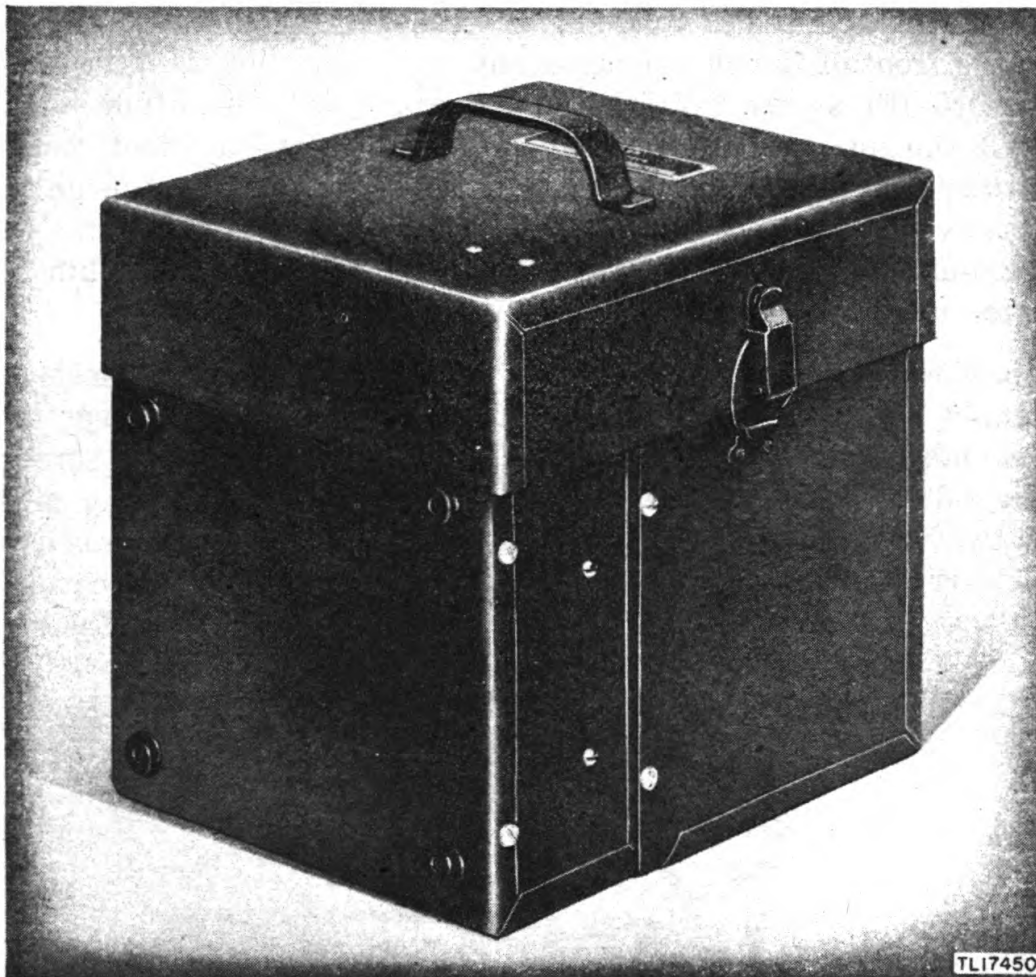

Figure 4. Vibrator Pack PP-68/U, assembled for carrying.
Vibrator Pack PP-68/U is 8- $\frac{3}{4}$ inches high, 8- $\frac{3}{8}$ inches wide, 9- $\frac{3}{8}$ inches deep, and weighs 22 pounds (fig. 4). Major components are:
b. Cover Plates. The cover plate on the bottom of the chassis assembly is held in place by eight 6/32 screws. The top cover is a steel housing and it is fastened to the chassis by four 6/32 screws. The side cover is attached to the chassis assembly and top cover by two catch fasteners (fig. 4). It has a steel handle, which is used for carrying the vibrator pack. On the outside of the side cover is the nameplate; inside is a fuse mounting with four spare fuses.